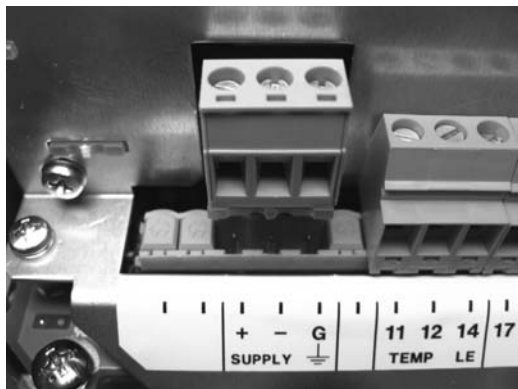

Figure 3.3 Green connector for power supply
3. Connect the power supply to the green connector according figure 3.3. Use the gland on the left for this cable.